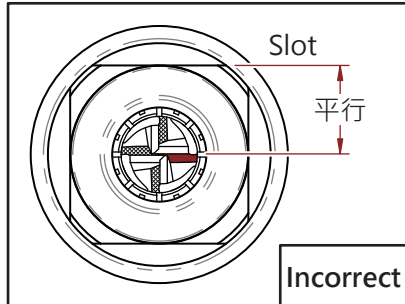
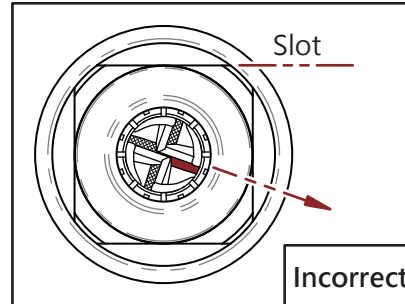

Fig. 7-4
Fig. 7-5
- ✘ If the end mill's cutting edge is parallel to the slot of clamping nut (Fig. 7-4) or angled away from the slot of clamping nut. (Fig. 7-5)